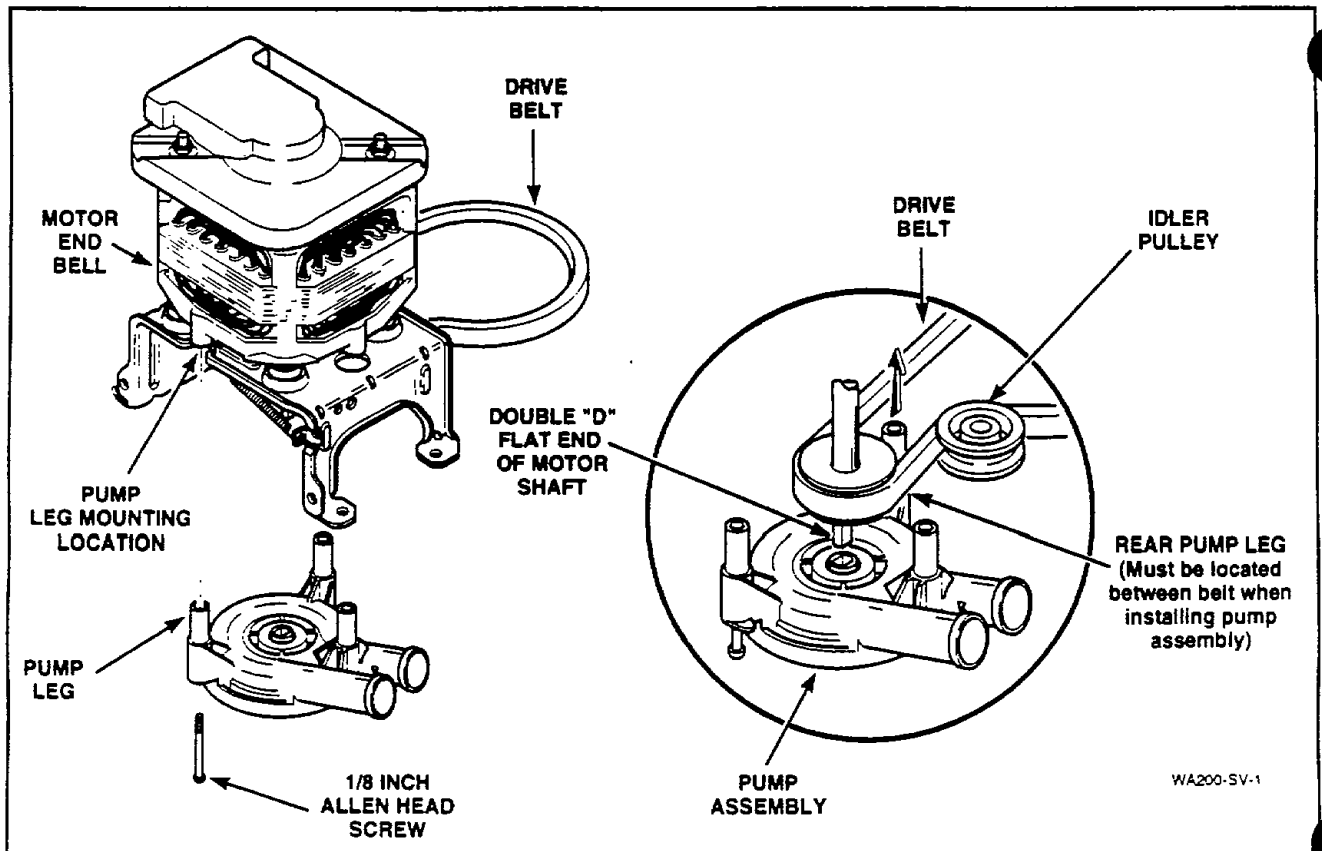

Figure 26
IMPORTANT: Carefully lay motor on its side. Observe the belt configuration around rear pump leg. The belt **MUST** encircle rear pump leg when reassembling, *Figure 26*.
- Use the No. 291P4 Allen Wrench, remove three 1/8 inch allen head screws holding pump assembly to motor, *Figure 26*.
- Align pump impeller hub with motor shaft. Make sure the belt encircles the rear pump leg, *Figure 26*.